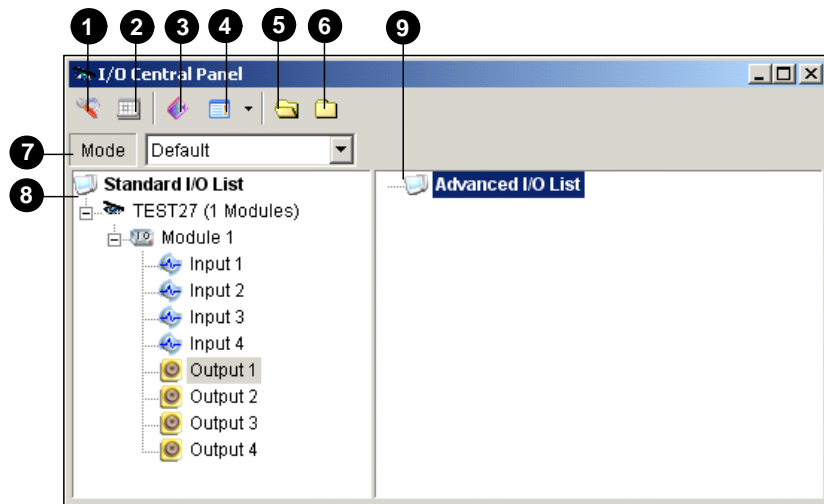

Figure 6-14
[Display Setting] You can define the nature of I/O devices by colors. Note that the setting only affects the **Detail** style of the Advanced I/O List (No. 4, Figure 6-14).
1. Click the Mode drop-down list (No. 7, Figure 6-14), and select **More Edit**. This dialog box appears.
4. To start the mode schedule, click the **Mode Schedule** button (No. 4, Figure 6-14), and then select **Mode Schedule Start**.
- To open the Quick Link window, click the **Toggle Quick Link** button. (No. 3, Figure 6-14).
1. To switch to the Icon style, click the **Advanced I/O List Style** button (No. 4, Figure 6-14) and then select **Icon**.